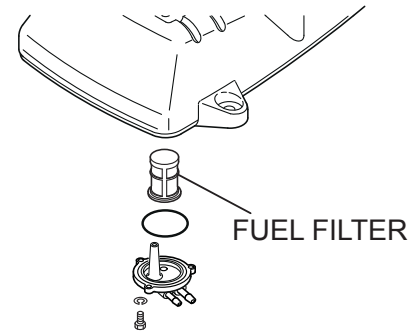

Figure 13. Fuel Strainer
- Inspect and clean fuel strainer (Figure 13). Replace strainer if necessary.